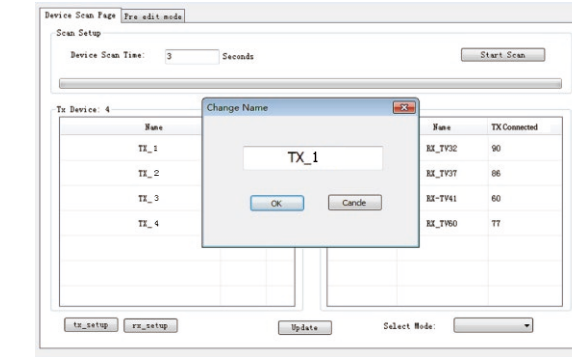

Figure 4
* Device Name setting as Figure 4